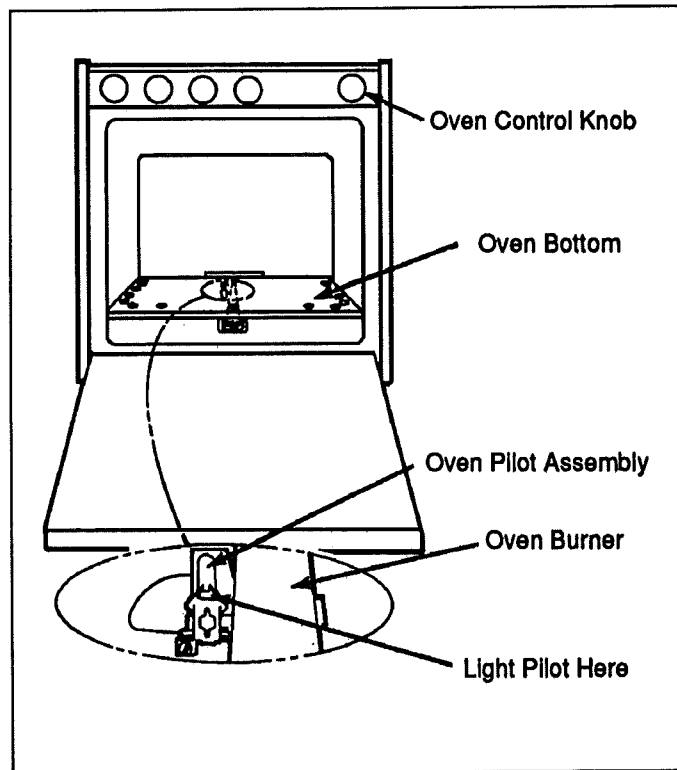

Figure 3
- c. Light oven pilot located at back of oven to the left of the oven burner (Figure 3).